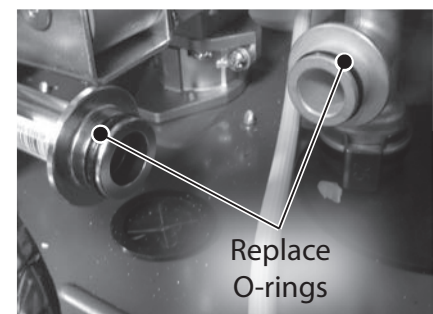

Figure 209 - Replace exposed O-rings
- 24** Locate the two (2) O-rings on the exposed water pipe connections as shown in Figure 209 and remove them. Dispose of O-rings properly.